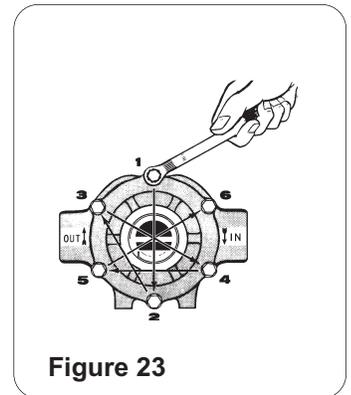

Figure 23
3. Turn Pump over; line up bolt holes and replace Assembly Bolts. Alternately and evenly tighten the Bolts as shown (Figure 23). NOTE: After Bolts have been tightened, check to see if Rotor is centered in Pump Case. Try to turn the Pump shaft, using a crescent wrench on the Shaft as a lever.